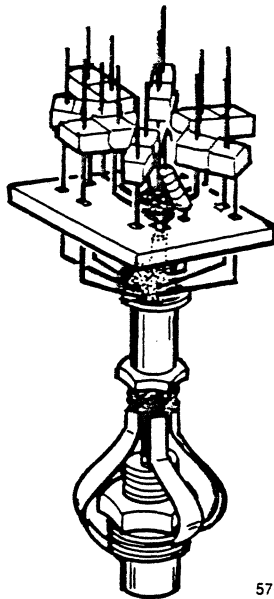

Figure 5-2. Data amplitude test fixture for 91HS8/91HSE8.
1. Attach the three solder lugs to the BNC connector as shown in Figure 5-2. Solder the center conductor of the male SMB to the center conductor of the BNC.